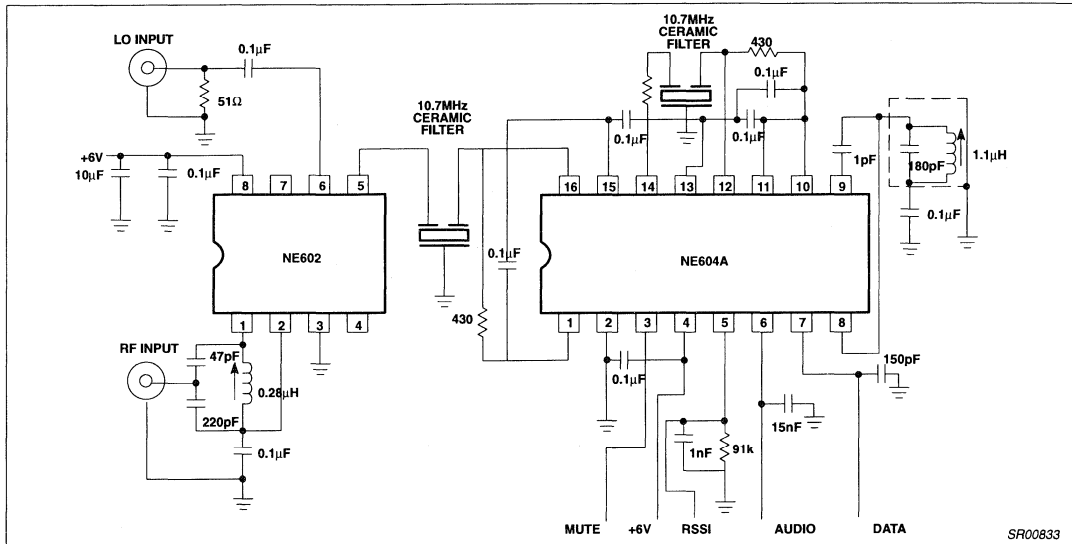

Figure 14. NE602/604A Demonstration Circuit with RF Input of ~100MHz and IF of 10.7MHz ±140kHz
This example represents three possible applications: (1) low cost, sensitive FM broadcast receivers, (2) SCA (Subsidiary Communications Authorization) receivers and (3) data receivers. The circuit schematic is shown in Figure 14. While this example has the greatest diversity of application, it is also the simplest. Two 10.7MHz ceramic filters were used. The first was directly connected to the output of the NE602. The second was directly connected to